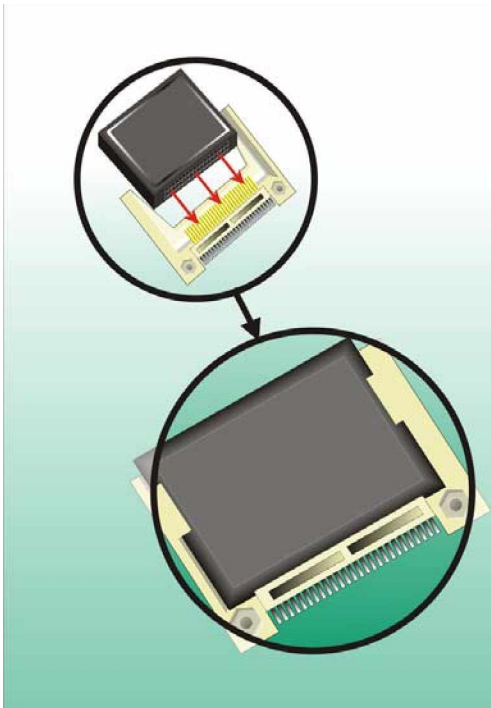

Figure 4-8: CompactFlash Card Installation
- Step 4:** Gently insert the CF card into the socket making sure the socket pins are properly inserted into the socket (**Figure 4-8**).